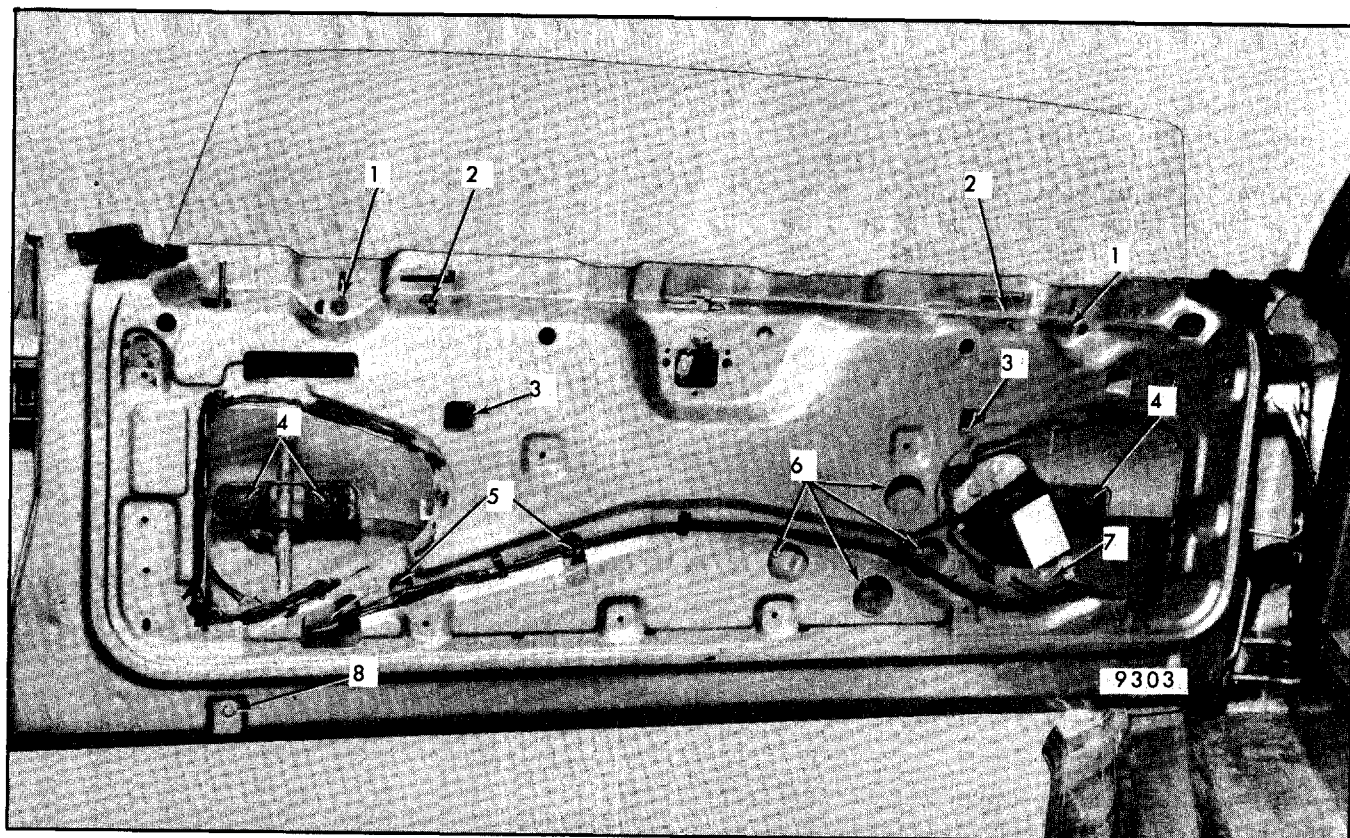

Fig. 7-135 - Tailgate Glass Removal
2. Mark location of up-travel stop attaching bolts and remove up stops, Figure 7-135, Item 1.
loosen attaching bolts and slide away from glass, Figure 7-135, Item 2.
5. Operate tailgate glass to a point that sash channel to glass attaching nuts are visible through holes in inner panel and remove attachments, Figure 7-135, Item 3.
6. Remove guide plate to glass attachments working through left and right access holes, Figure 7-135, Item 4.
2. With glass in the full up position, mark location of belt trim support retainer attaching bolts and loosen bolts, Figure 7-135, Item 2.
3. Mark location and remove inner panel cam attaching bolts, Figure 7-135, Item 5.
4. Remove sash panel cam to glass attaching nuts and pull cam from glass, Figure 7-135, Item 3.
5. Drive out regulator and motor attaching rivet center pins with punch, then drill out rivets with 1/4" drill bit. Remove regulator and motor as an assembly through access hole, Figure 7-135, Item 6 and 7.